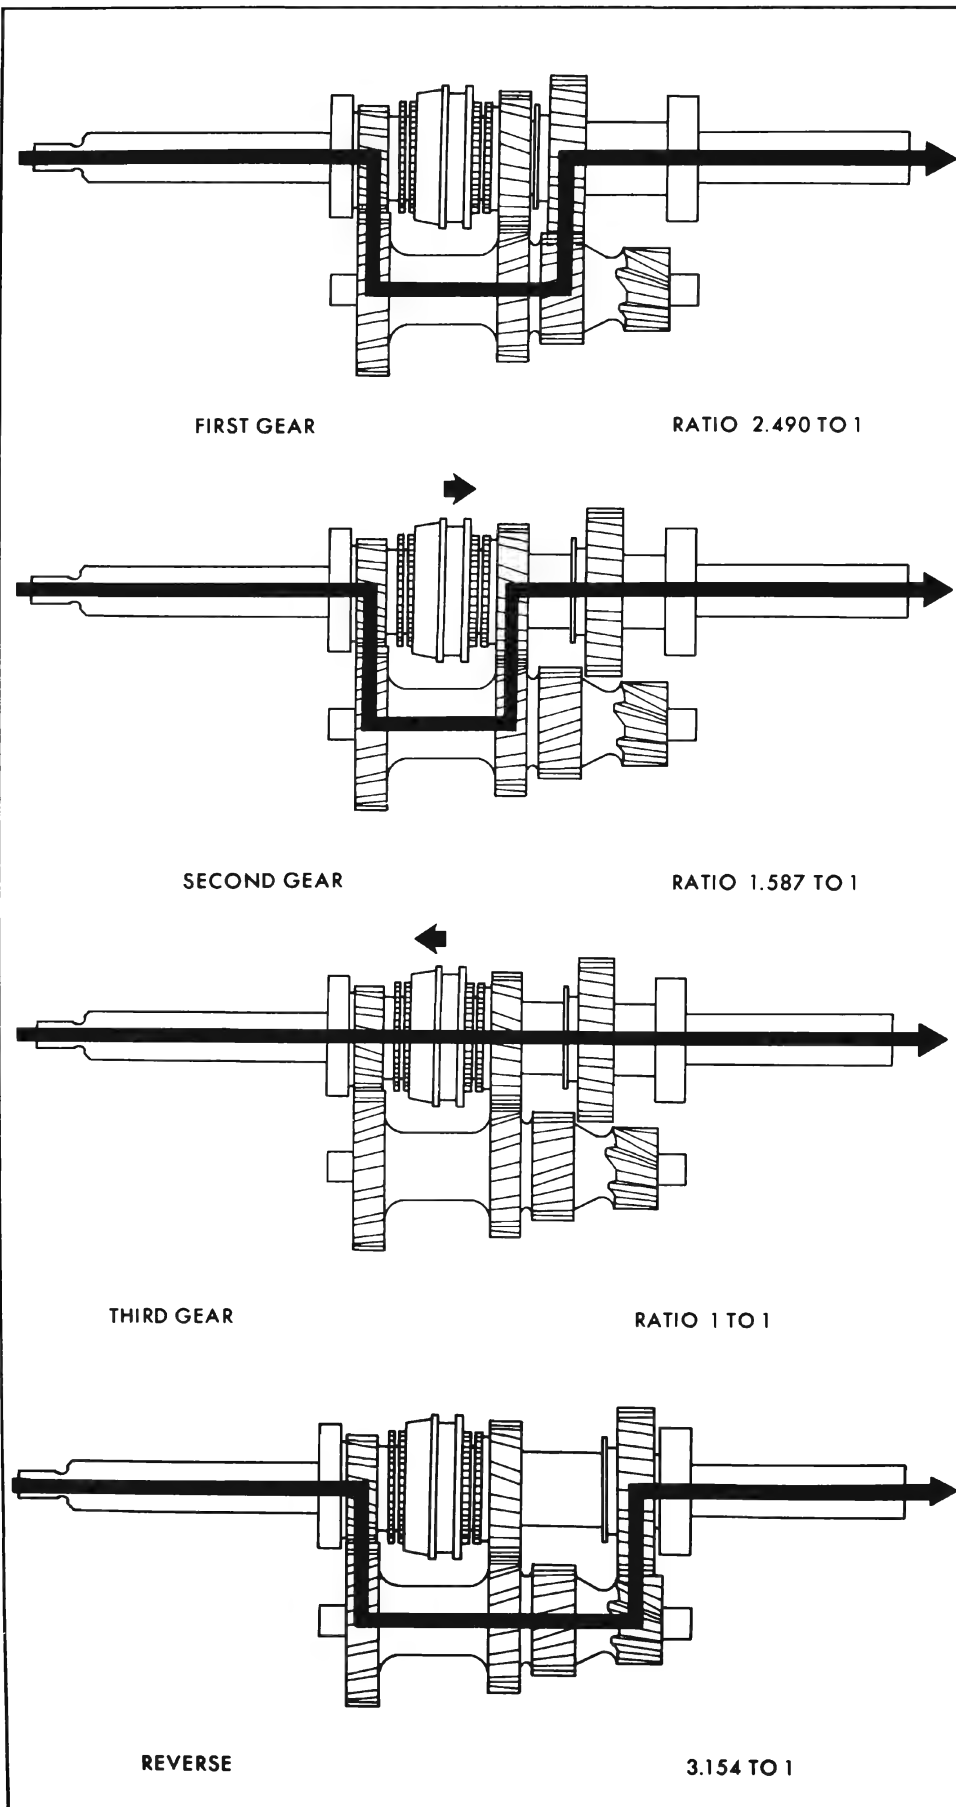

Figure 4-78—Transmission Power Flow
1. In first speed, the first speed sliding gear is slid forward on the mainshaft splines so that it engages its corresponding gear on the countergear. See Figure 4-78 to follow the power flow.
2. In second speed, the clutch sleeve is slid rearward on the synchronizer hub so that it first synchronizes the speed of the second gear, then engages the projecting teeth on the second gear. See Figure 4-78.
3. In third speed, the clutch sleeve is slid forward on the synchronizer hub so that it first synchronizes the speed of the drive gear, then engages the projecting teeth on the drive gear. See Figure 4-78.